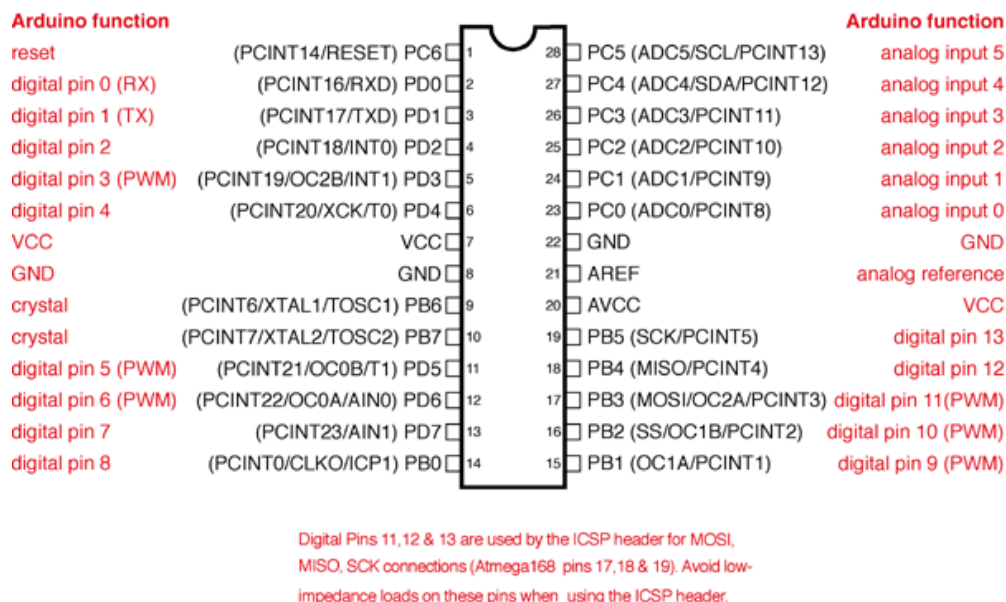

Figure 1 : Pin mapping of ATmega328P to Arduino Uno
**avr-gcc** toolchain doesn't know the Arduino Uno board layout, it only knows the microcontroller that is mounted on it, which is the **ATmega328p**. So, we need to use the *hardware I/O registers* and *pins* of that particular chip when writing our program. However, we have to use the pins on the Arduino board for connecting to external components (because the chip is already soldered to the board). Figure 1 shows the mapping between the pins of the microcontroller and the pins of the Arduino board.
and output. Some pins have multiple functionalities as well where the alternate functionalities are shown in brackets. For example, *PC6* which is the 7th bit of *Port C* can be used as RESET input, as shown in figure 1. These different pins in the microcontroller are connected appropriately inside the Arduino and the ports are exposed to the outside by different names. For example, the *PB5* pin of the ATmega328p is exposed by the name “digital pin 13” on the Arduino.